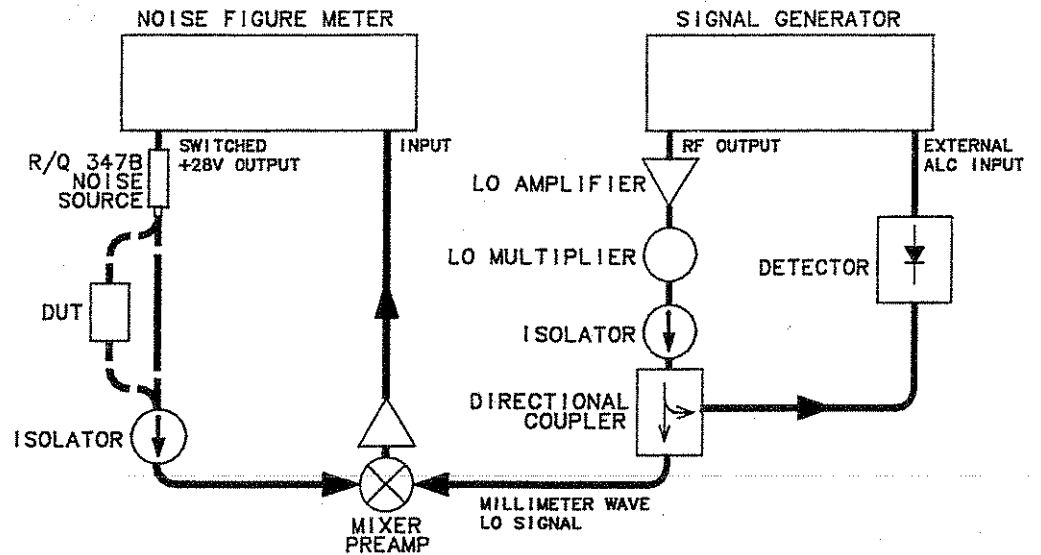
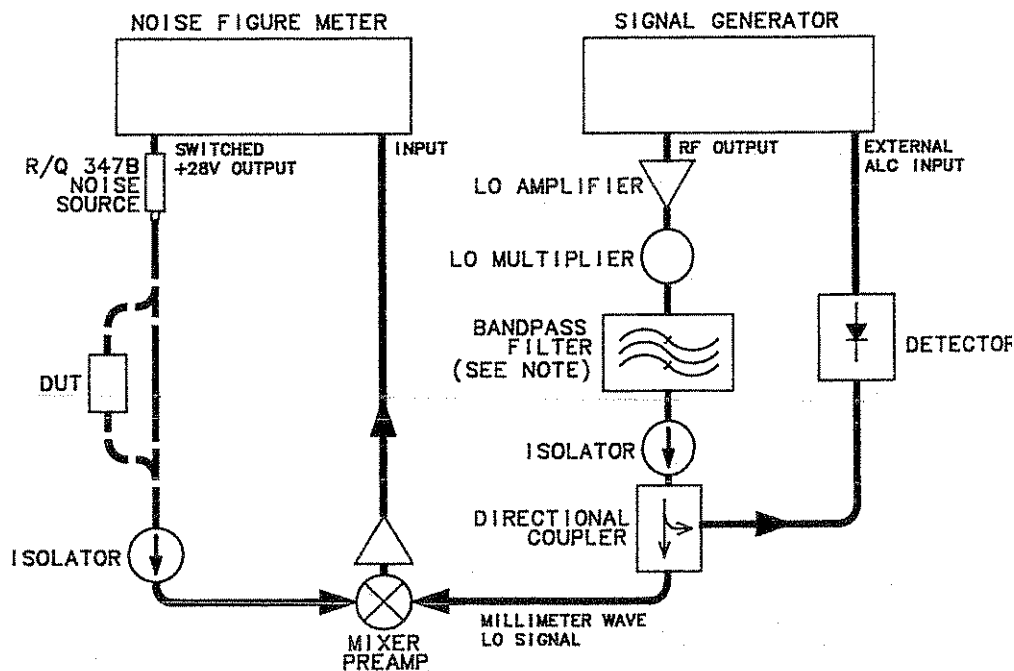

Figure 2. Noise Source Functional Test Setup
Figure 3. Noise Figure Measurement Setup
Noise figure measurements of devices (such as amplifiers, mixers, transistors, and receivers) can be made using the Noise Source with a noise figure meter. Figure 3 depicts a simple test setup for a noise figure measurement. Figure 2 is a similar setup to verify the Noise Source is operational. Note that the noise figure meter must have a $+28 \pm 1V$ switched output.
Connect the equipment as shown in Figure 2 and follow this procedure:
1. Connect the equipment as shown in Figure 3 with the device under test (DUT) removed. Most of this equipment is described in Table 3.